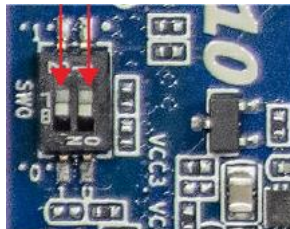

Figure 4-14 SW0[1:0] on Apollo S10 SoM
21. Set SW0[1:0] of the Apollo SoM to ”00” as shown in **Figure 4-14**.